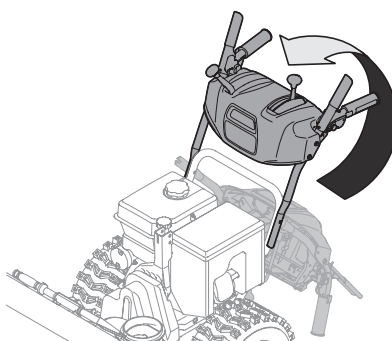

Figure 2-5
5. Pivot handle upward and align the lower handle. See Figure 2-5. Remove and discard any rubber bands, if present. They are for packaging purposes only.